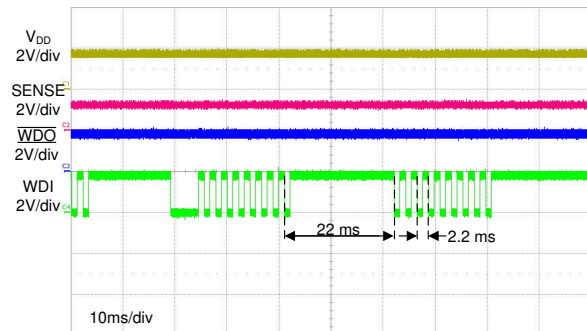

图 8-10. Window Watchdog Timing
In this application, the window watchdog timing options are based on the PWM signal that is provided to the TPS3850-Q1. A window watchdog setting must be chosen such that the falling edge of the PWM signal always falls within the window. A nominal window must be designed with $t_{WDL(max)}$ less than 5 ms and $t_{WDU(min)}$ greater than 5 ms. There are several options that satisfy this window option. An external capacitor can be placed on the CWD pin and calculated to have a sufficient window. Another option is to use one of the factory-programmed timing options. An additional advantage of choosing one of the factory-programmed options is the ability to reduce the number of components required, thus reducing overall BOM cost. Leaving the CWD pin unconnected (NC) with $SET0 = 0$ and $SET1 = 1$ produces a $t_{WDL(max)}$ of 2.22 ms and a $t_{WDU(min)}$ of 23.375 ms; see 图 8-10.